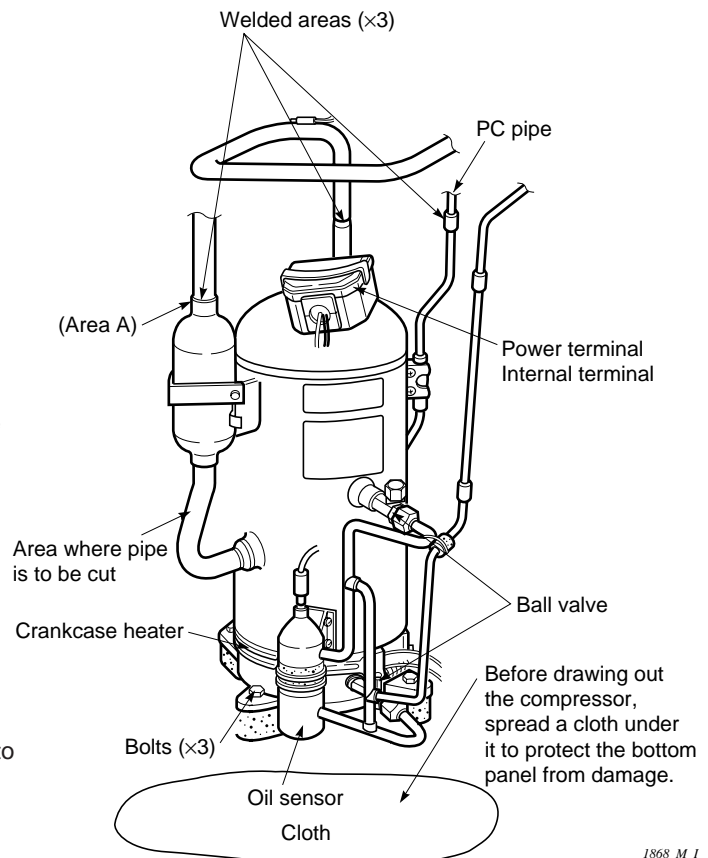

Fig. 1
(1) Replacing the power control (PC) compressor (Ref. Fig. 1)